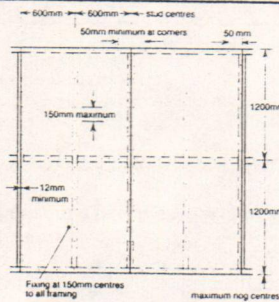

Fig. 14 Vertical sheet fixing
- Studs and noggings are to be a minimum of ex. 50mm wide to give sufficient width to fix sheets at joints. Studs shall be at maximum 600mm centres and nogs at 1200mm centres. (Refer Fig. 14)
- Harditex has been tested as sheet bracing fixed with 40mm x 2.5mm Hardiflex nails at standard 150mm centres to all framing. For nail fixing refer Fig. 14.